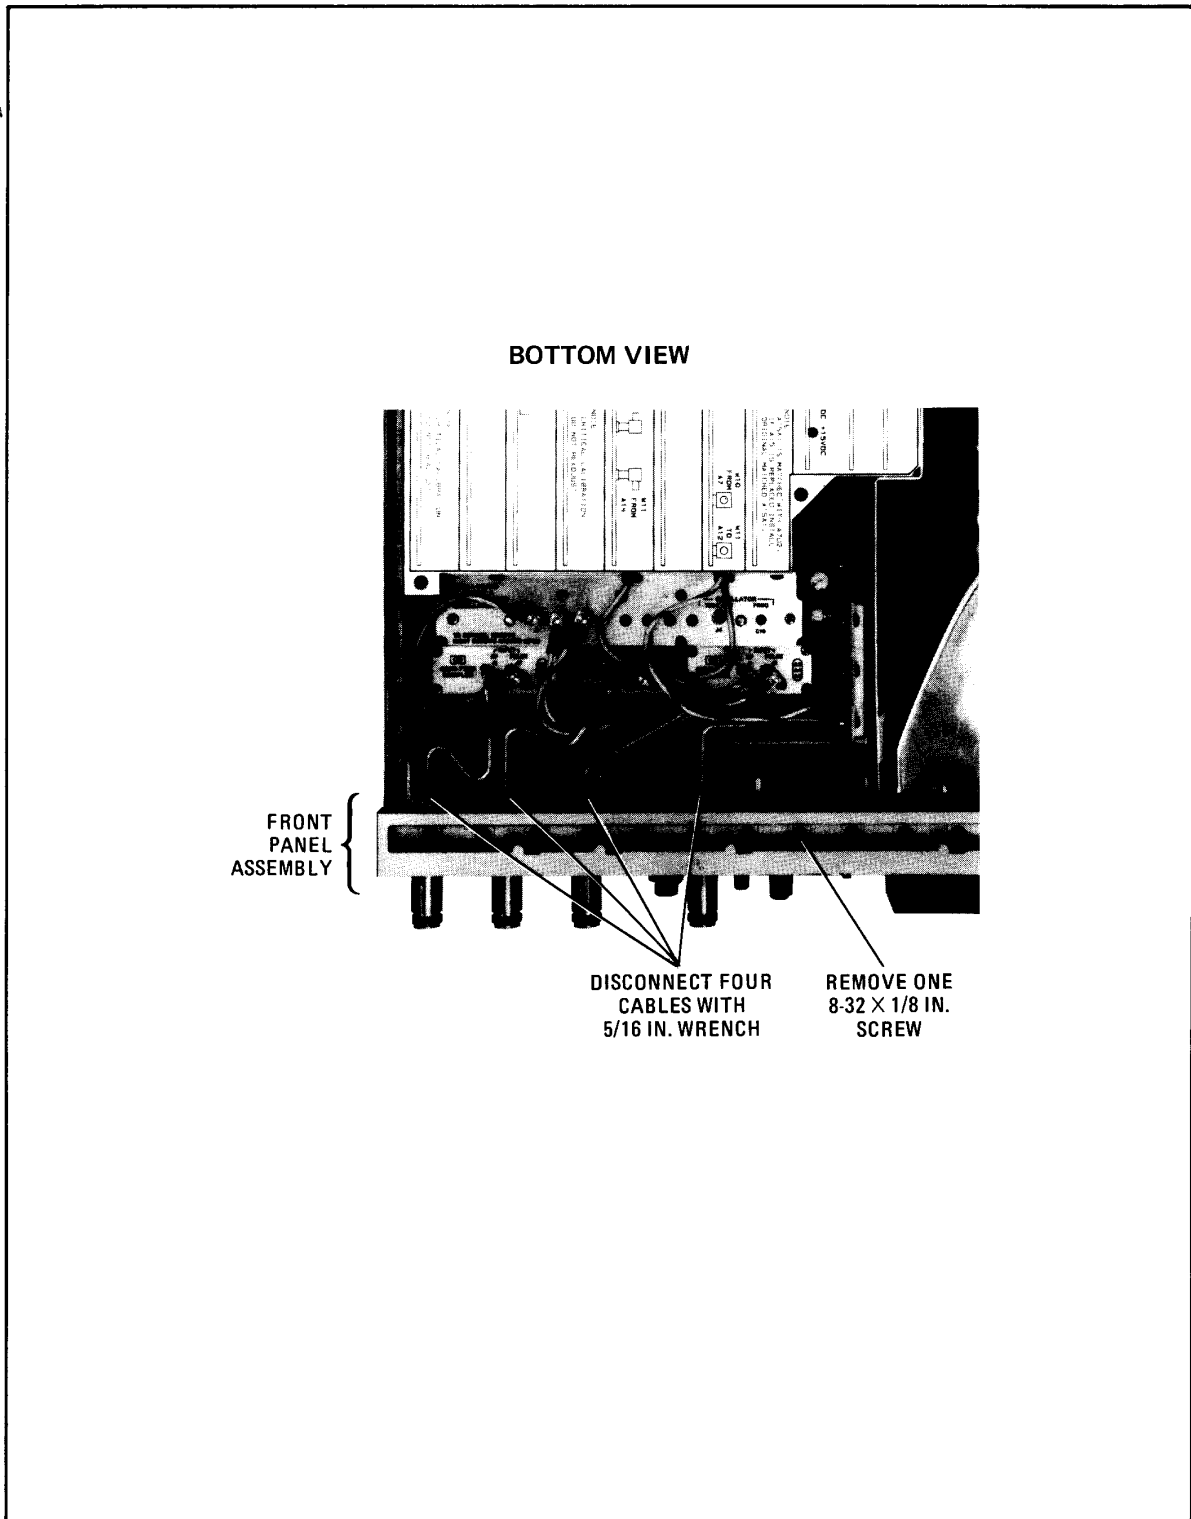

Figure 8-112. Bottom View Showing Disassembly of Front Panel Assembly from Instrument
8. Remove one 6-32 x 1/8 inch flat-head Pozi-Driv screw from bottom of front frame adjacent to front-panel OUTPUT dBm control. (See Figure 8-112.)
9. With 5/16 inch wrench, remove B INPUT, A INPUT, R INPUT, and RF OUTPUT cables from rear side of front-panel connectors. (See Figure 8-112)
3. Mate A1 and A2, then install seven 6-32 x 1-1/4 inch Pozi-Driv screws to secure the two boards together. (See Figure 8-112.)
3. Mate front panel connectors B INPUT, A INPUT, R INPUT, and RF OUTPUT to the corresponding RF cables (Figure 8-112). (It may be necessary to loosen the RF cables on the opposite end.)